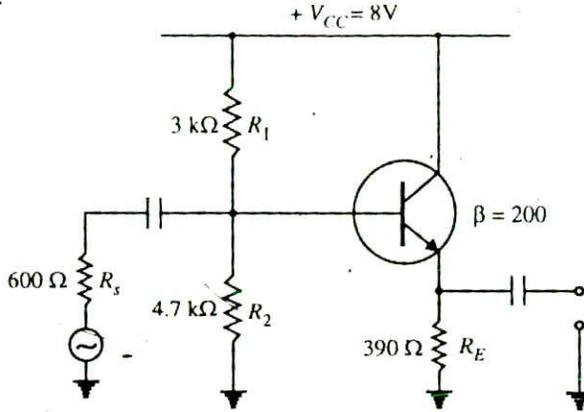

Fig. 15.23
**Example 15.20.** Determine the output impedance of the emitter follower shown in Fig. 15.23. Given that  $r'_e = 20 \Omega$ .